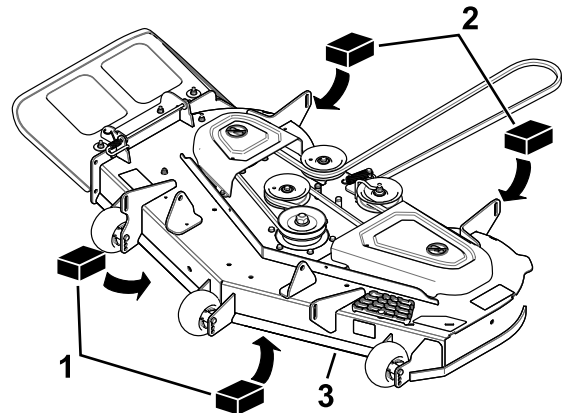

Figure 73
3. Place 2 blocks, each having a thickness of 6.6 cm (2-5/8 inches), under each side of the front edge of the deck but not under the anti-scalp roller brackets (Figure 73).
4. Place 2 blocks, each having a thickness of 7.3 cm (2-7/8 inches), under the rear edge of the cutting deck skirt, 1 on each side of the cutting deck (Figure 73).